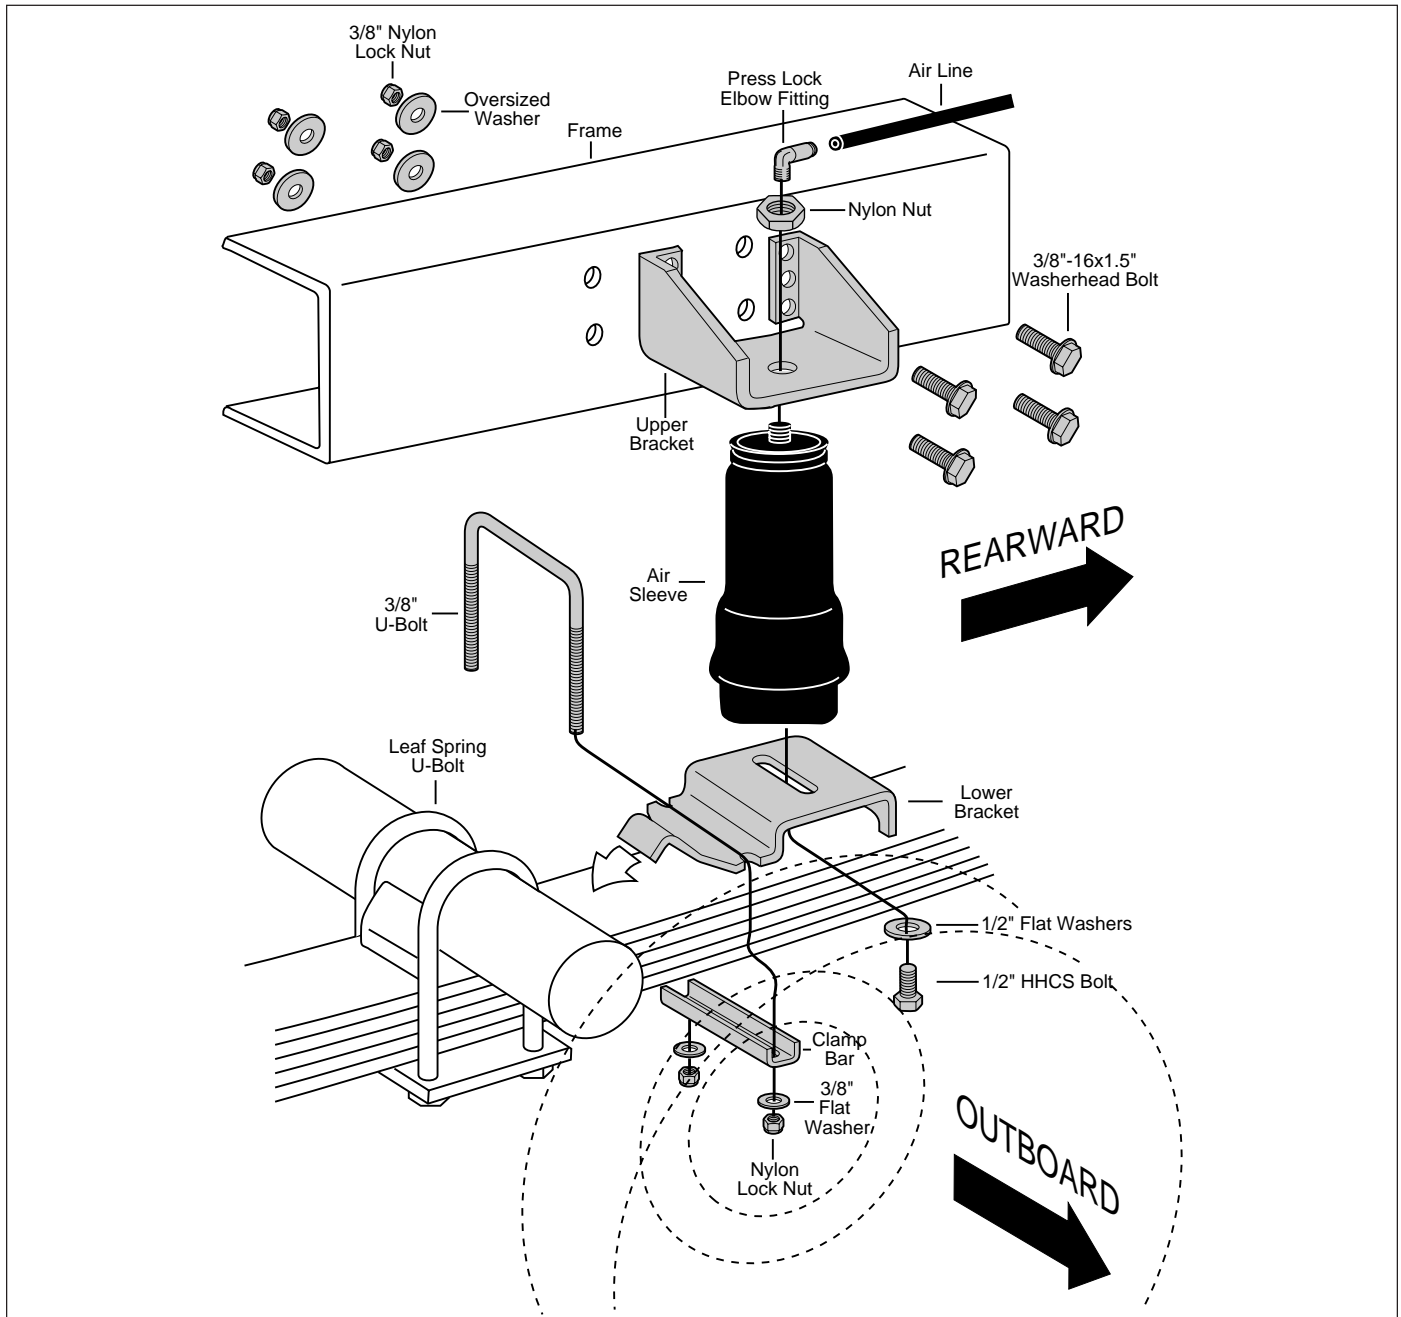
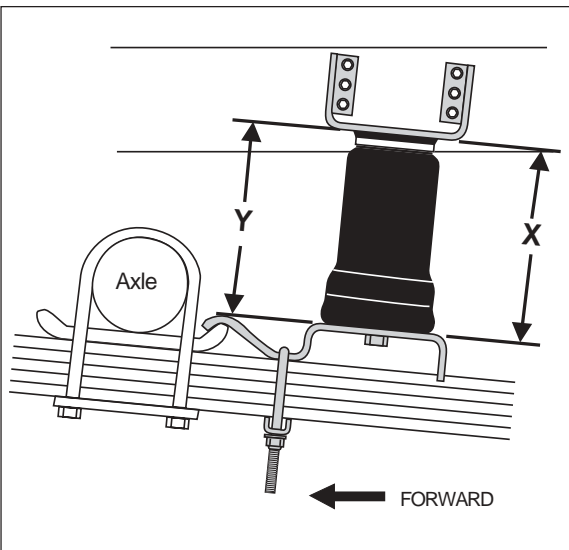

Figure 1
Figure 4
2. Using the slot in the lower bracket, push the upper bracket against the frame rail. Use the nuts on the threaded portion of the installation tool to adjust the upper bracket so that the flanges of the upper bracket are flat against the frame rail and four mounting holes are on the flat middle section of the frame rail. The mounting holes must be at least 3/4" from the rounded edges of the frame rail. The brackets can be mounted anywhere within the threaded range of the installation tool (Figure 1).
- Using the bracket as a template, mark four holes on each side of the bracket to be drilled. The X and Y dimensions (Figure 4) should be equal. The sleeve should be mounted so that it follows the natural arc of the suspension through its full travel (Figure 1 & 4). Remove the upper bracket and installation tool and drill the four $\frac{3}{8}$ " holes.
- Orient the fitting so that it faces in the direction of the intended air line route. Install the upper bracket onto the frame rail using the short $\frac{3}{8}$ " washer head frame bolts, large flat washers, and nylon locknuts provided in the kit. Tighten 20 ft-lbs. (Figure 1).
If the vehicle's headlights are shining into the trees or the vehicle is leaning to one side, then it is not level (fig. 1). Raise the air pressure to correct either of these problems and level the vehicle.